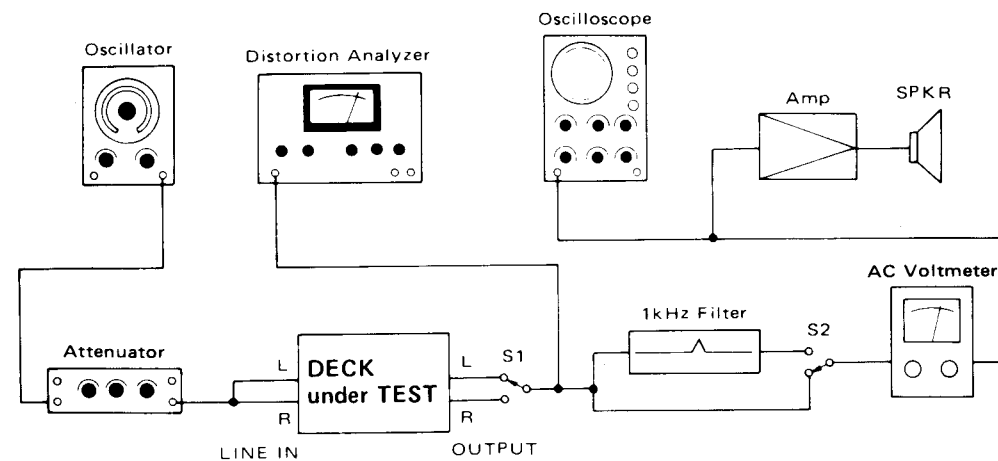

Fig. 5-1 Basic test setup
16. Erase efficiency	Connection is same as in Fig. 5-1, but engage 1-kHz filter. Record a 1-kHz signal. Rewind tape to midpoint of recorded portion. Record a "no signal" portion. Find the difference between the 1-kHz portion and the "no-signal" portion.
17. REC MUTE function	Connection: Fig. 5-1, but engage 1-kHz filter. Record a 1-kHz signal. Push REC MUTE button for several seconds. (At this time, make sure lights). Rewind and play the tape. Find the difference between the 1-kHz portion and the "no-signal" portion.